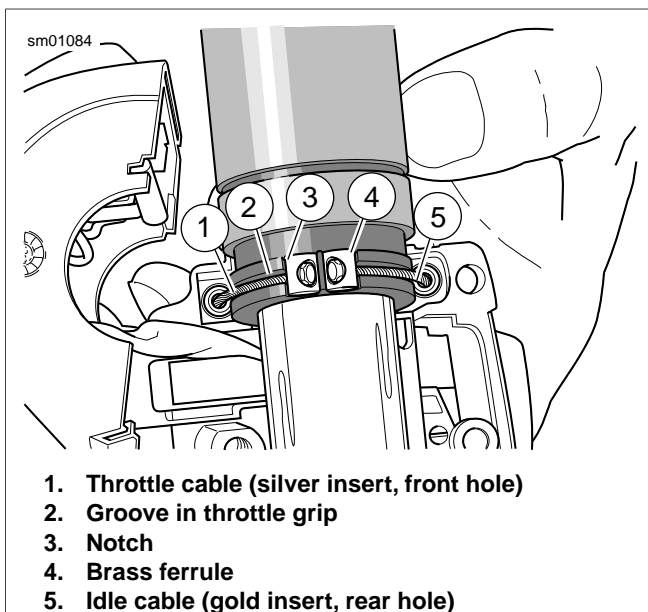

Figure 2-95. Throttle Cable Attachment
4. See Figure 2-95. Pull the cables from the housing by placing a drop of oil on the retaining ring that holds the cable in the housing, then firmly pull the bent tubing portion of the cable out of the housing using a rocking motion.